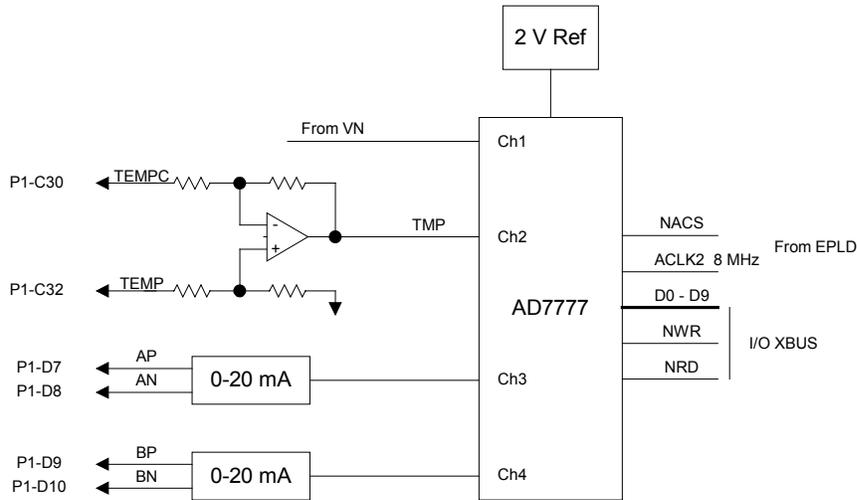

Figure 7. A/D Converter Interface
There are four analog/digital (A/D) converter input channels as shown in Table 5 and Figure 7. Channel one of the A/D converter monitors the motor neutral voltage (VN). VN is a bipolar voltage that is biased at 1 V for a neutral voltage of 0 V. Full scale voltage for this input into the A/D converter is ± 1 V. Channel two of the A/D converter monitors a temperature signal sent from the FOHB board and represents the peak temperature of the cells during normal operation. Full scale at the input terminals (P1-TEMP and P1-TEMPC) is 10 V. This voltage is used for temperature fault indication as shown in Table 4.